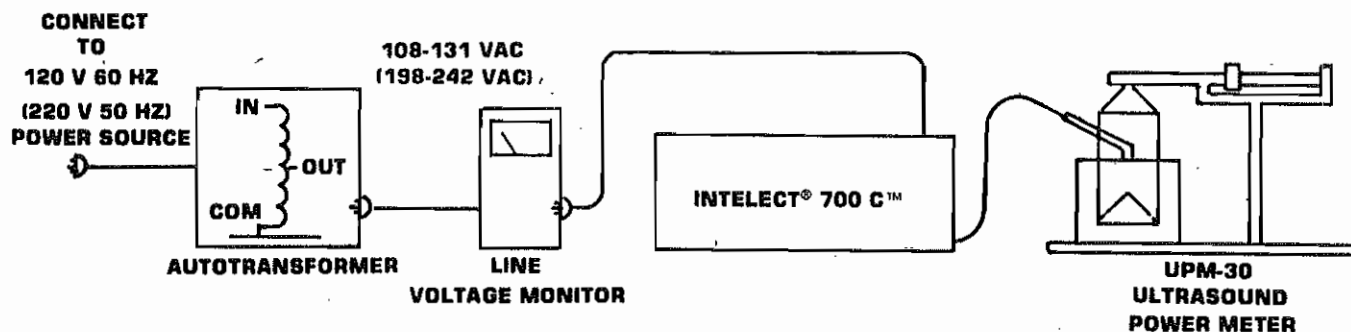

FIGURE 2
1. Connect the test set-up as shown in Fig. 2.
2. Set AC input voltage with the autotransformer to 120 (220) VAC line monitor.